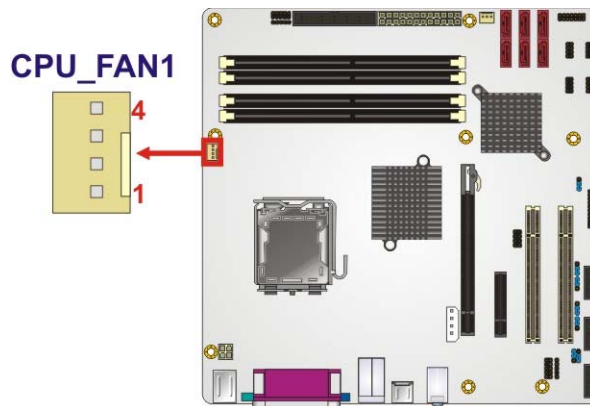

Figure 3-5: +12V Fan Connector Location
- CN Location:** See **Figure 3-5**